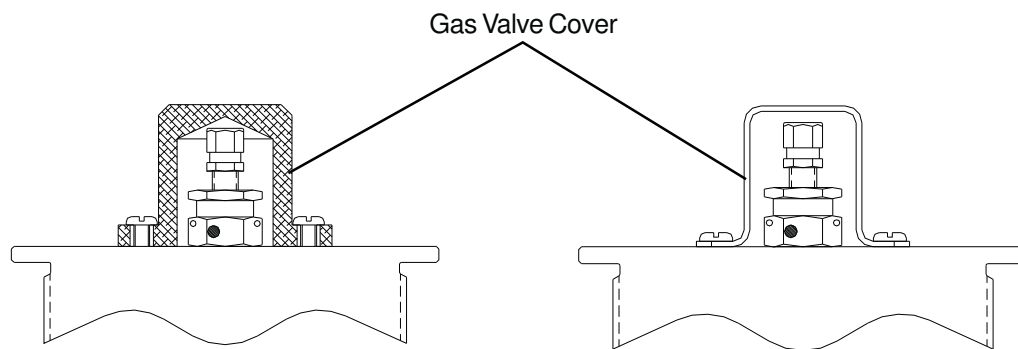

Figure 1 - Gas Valve Cover(s)
1. Remove the gas valve cover from the end-cap (See Figure 1). Not all units are supplied with this cover.